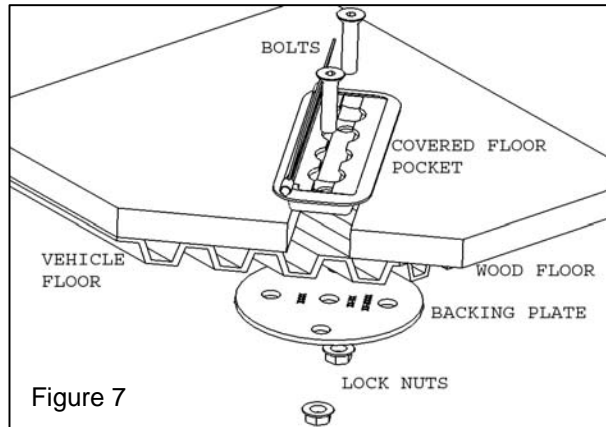

Figure 7
3. Insert pocket and use as a template to mark two (2) center holes to be drilled.
8. Securely fasten bolts and lock nuts as shown in Figure 7, ensuring at least 2 – 3 threads are sticking out.